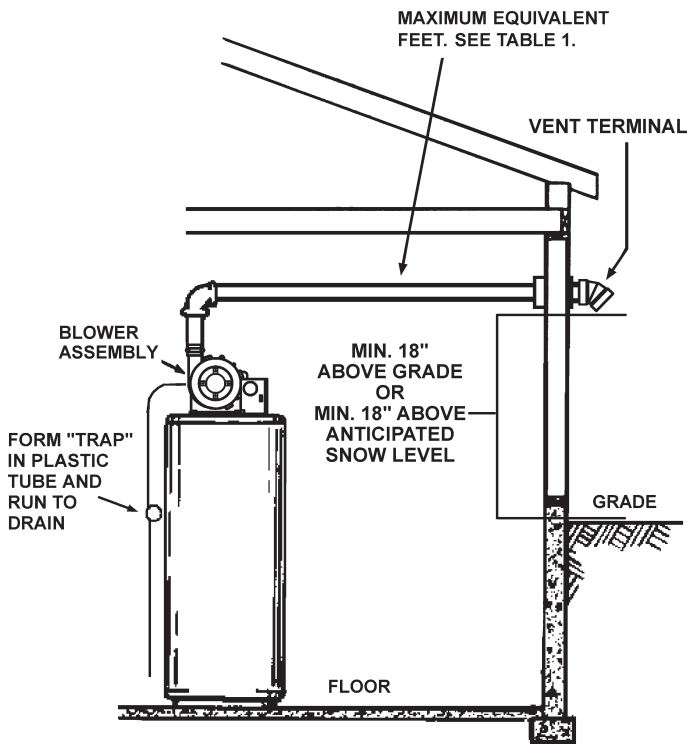

FIGURE 19.
The first step is to determine where the vent pipe will terminate, see Figures 15, 19 and 20. The vent may terminate through the roof as shown in Figure 20 or through a sidewall as shown in Figure 19.
The water heater must be connected to a grounded metal, permanent wiring system; or an equipment grounding conductor must be run with the circuit conductors and connected to the equipment grounding terminal or lead on the water heater, see Figure 19.
1. Vent Termination must extend a minimum of 18 inches (46 cm) above roof or 18 inches (46 cm) above the anticipated snow level to prevent blockage of the vent termination, as shown in Figures 19 and 20.
2. The venting system should terminate at least four (4) feet (1.2 m) from or one (1) foot (30 cm) above any gable, dormer or other roof structure with building interior access; i.e., vent, window, etc.
3. The venting system should terminate three (3) feet (91 cm) above any forced air inlet located within ten feet (3.0 m).